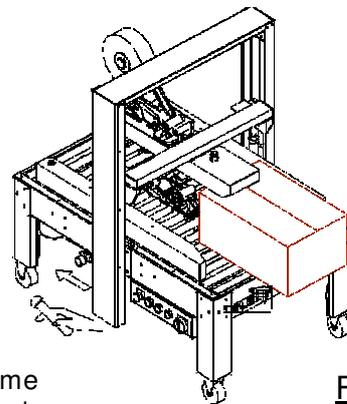

Figure 3-2
3. Install plastic pipe, Adjusting the pressure to 5~6kgf/cm2, Refer to Figure 3-2.